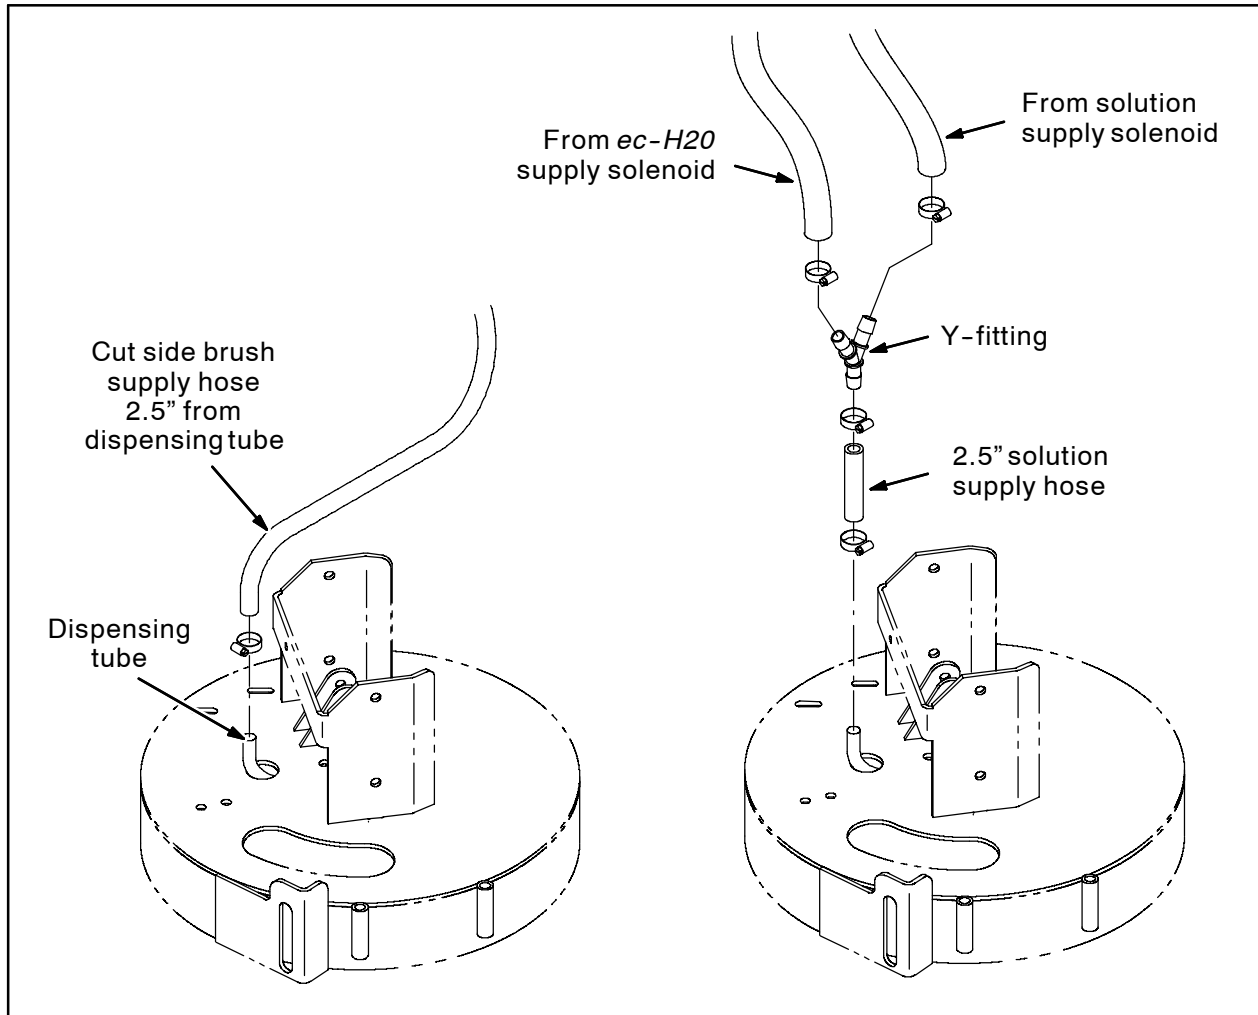

FIG. 12
36. Cut the solution supply hose 2.5" from where the hose is connected to the dispensing tube. Refer to Fig. 12.
37. Use a hose clamp to connect the y-fitting to the 2.5" solution supply hose. Refer to Fig. 12.
38. Use a hose clamp to connect the hose from the solution supply solenoid to the y-fitting. Refer to Fig. 12.
39. Use a hose clamp to connect the 20" PVC hose from the solenoid to the y-fitting. Refer to Fig. 12.